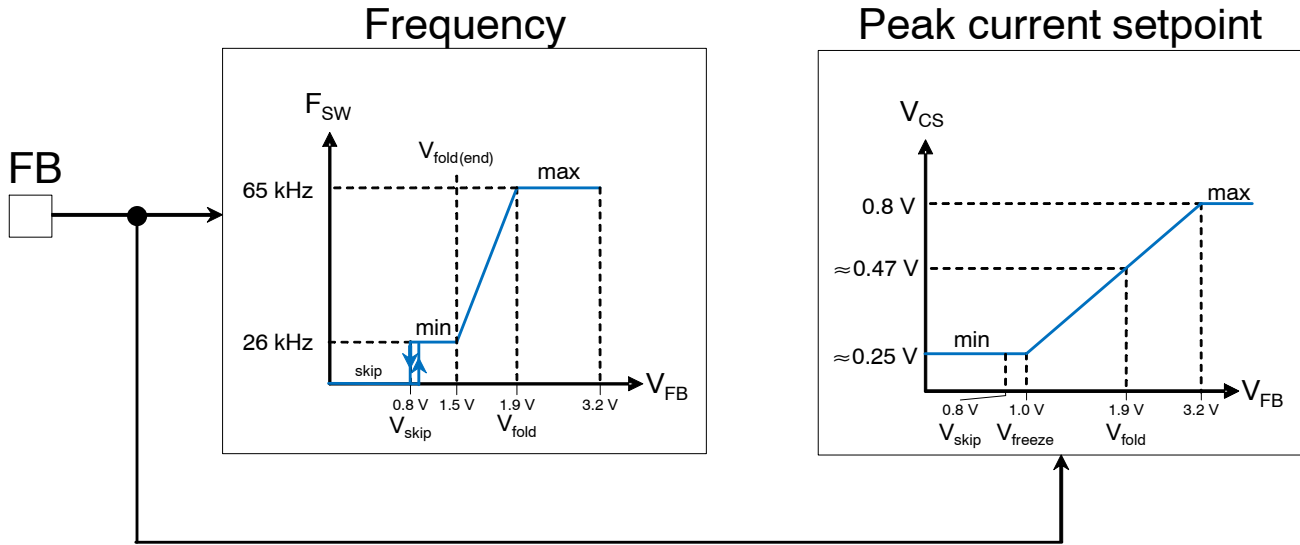

Figure 42. By Observing the Voltage on the Feedback Pin, the Controller Reduces its Switching Frequency for an Improved Performance at Light Load
1.5 V, the frequency is fixed and cannot go further down. The peak current setpoint is free to follow the feedback voltage from 3.2 V (full power) down to 1 V. At 1 V, as both frequency and peak current are frozen (250 mV or $\approx 31\%$ of the maximum 0.8-V setpoint) the only way to further reduce the transmitted power is to enter skip cycle. This is what happens when the feedback voltage drops below 0.8 V typically. Figure 42 depicts the adopted scheme for the part.